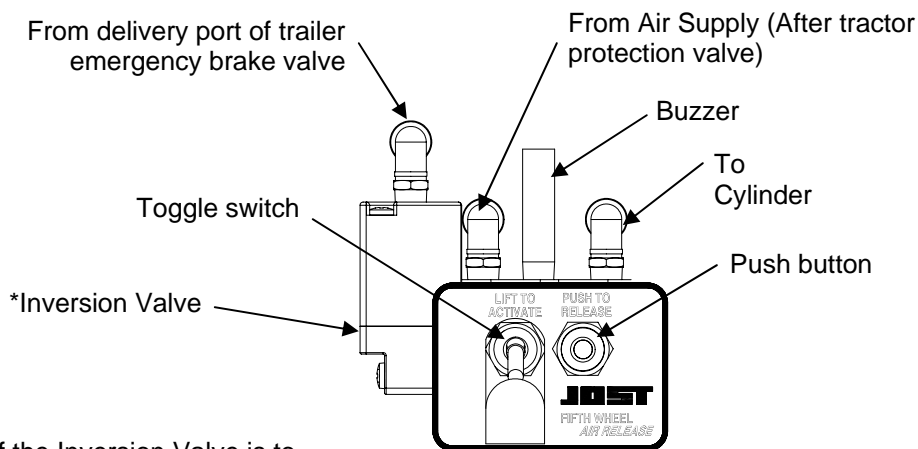
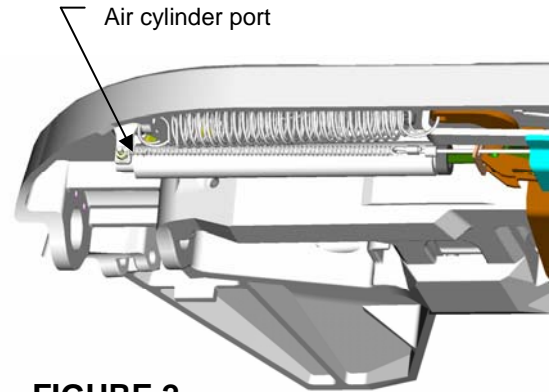

FIGURE 1
FIGURE 2
1. Install a tee in the line from the delivery port of the trailer emergency brake valve. Connect a line from the tee to the port on the inversion valve (see figure 1).
2. Connect an air source from the tractor (after the tractor protection valve) to the port labeled "From Air Supply" on the air release manifold (see figure 1).
3. Connect a line from the port labeled "To Cylinder" on the air release manifold (see figure 1) to the port on the air release cylinder under the fifth wheel topplate (see figure 2).